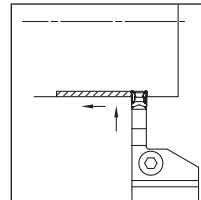

fig. 2
2) Groove depth less than 0.5mm: For Finishing (See Fig. 2)